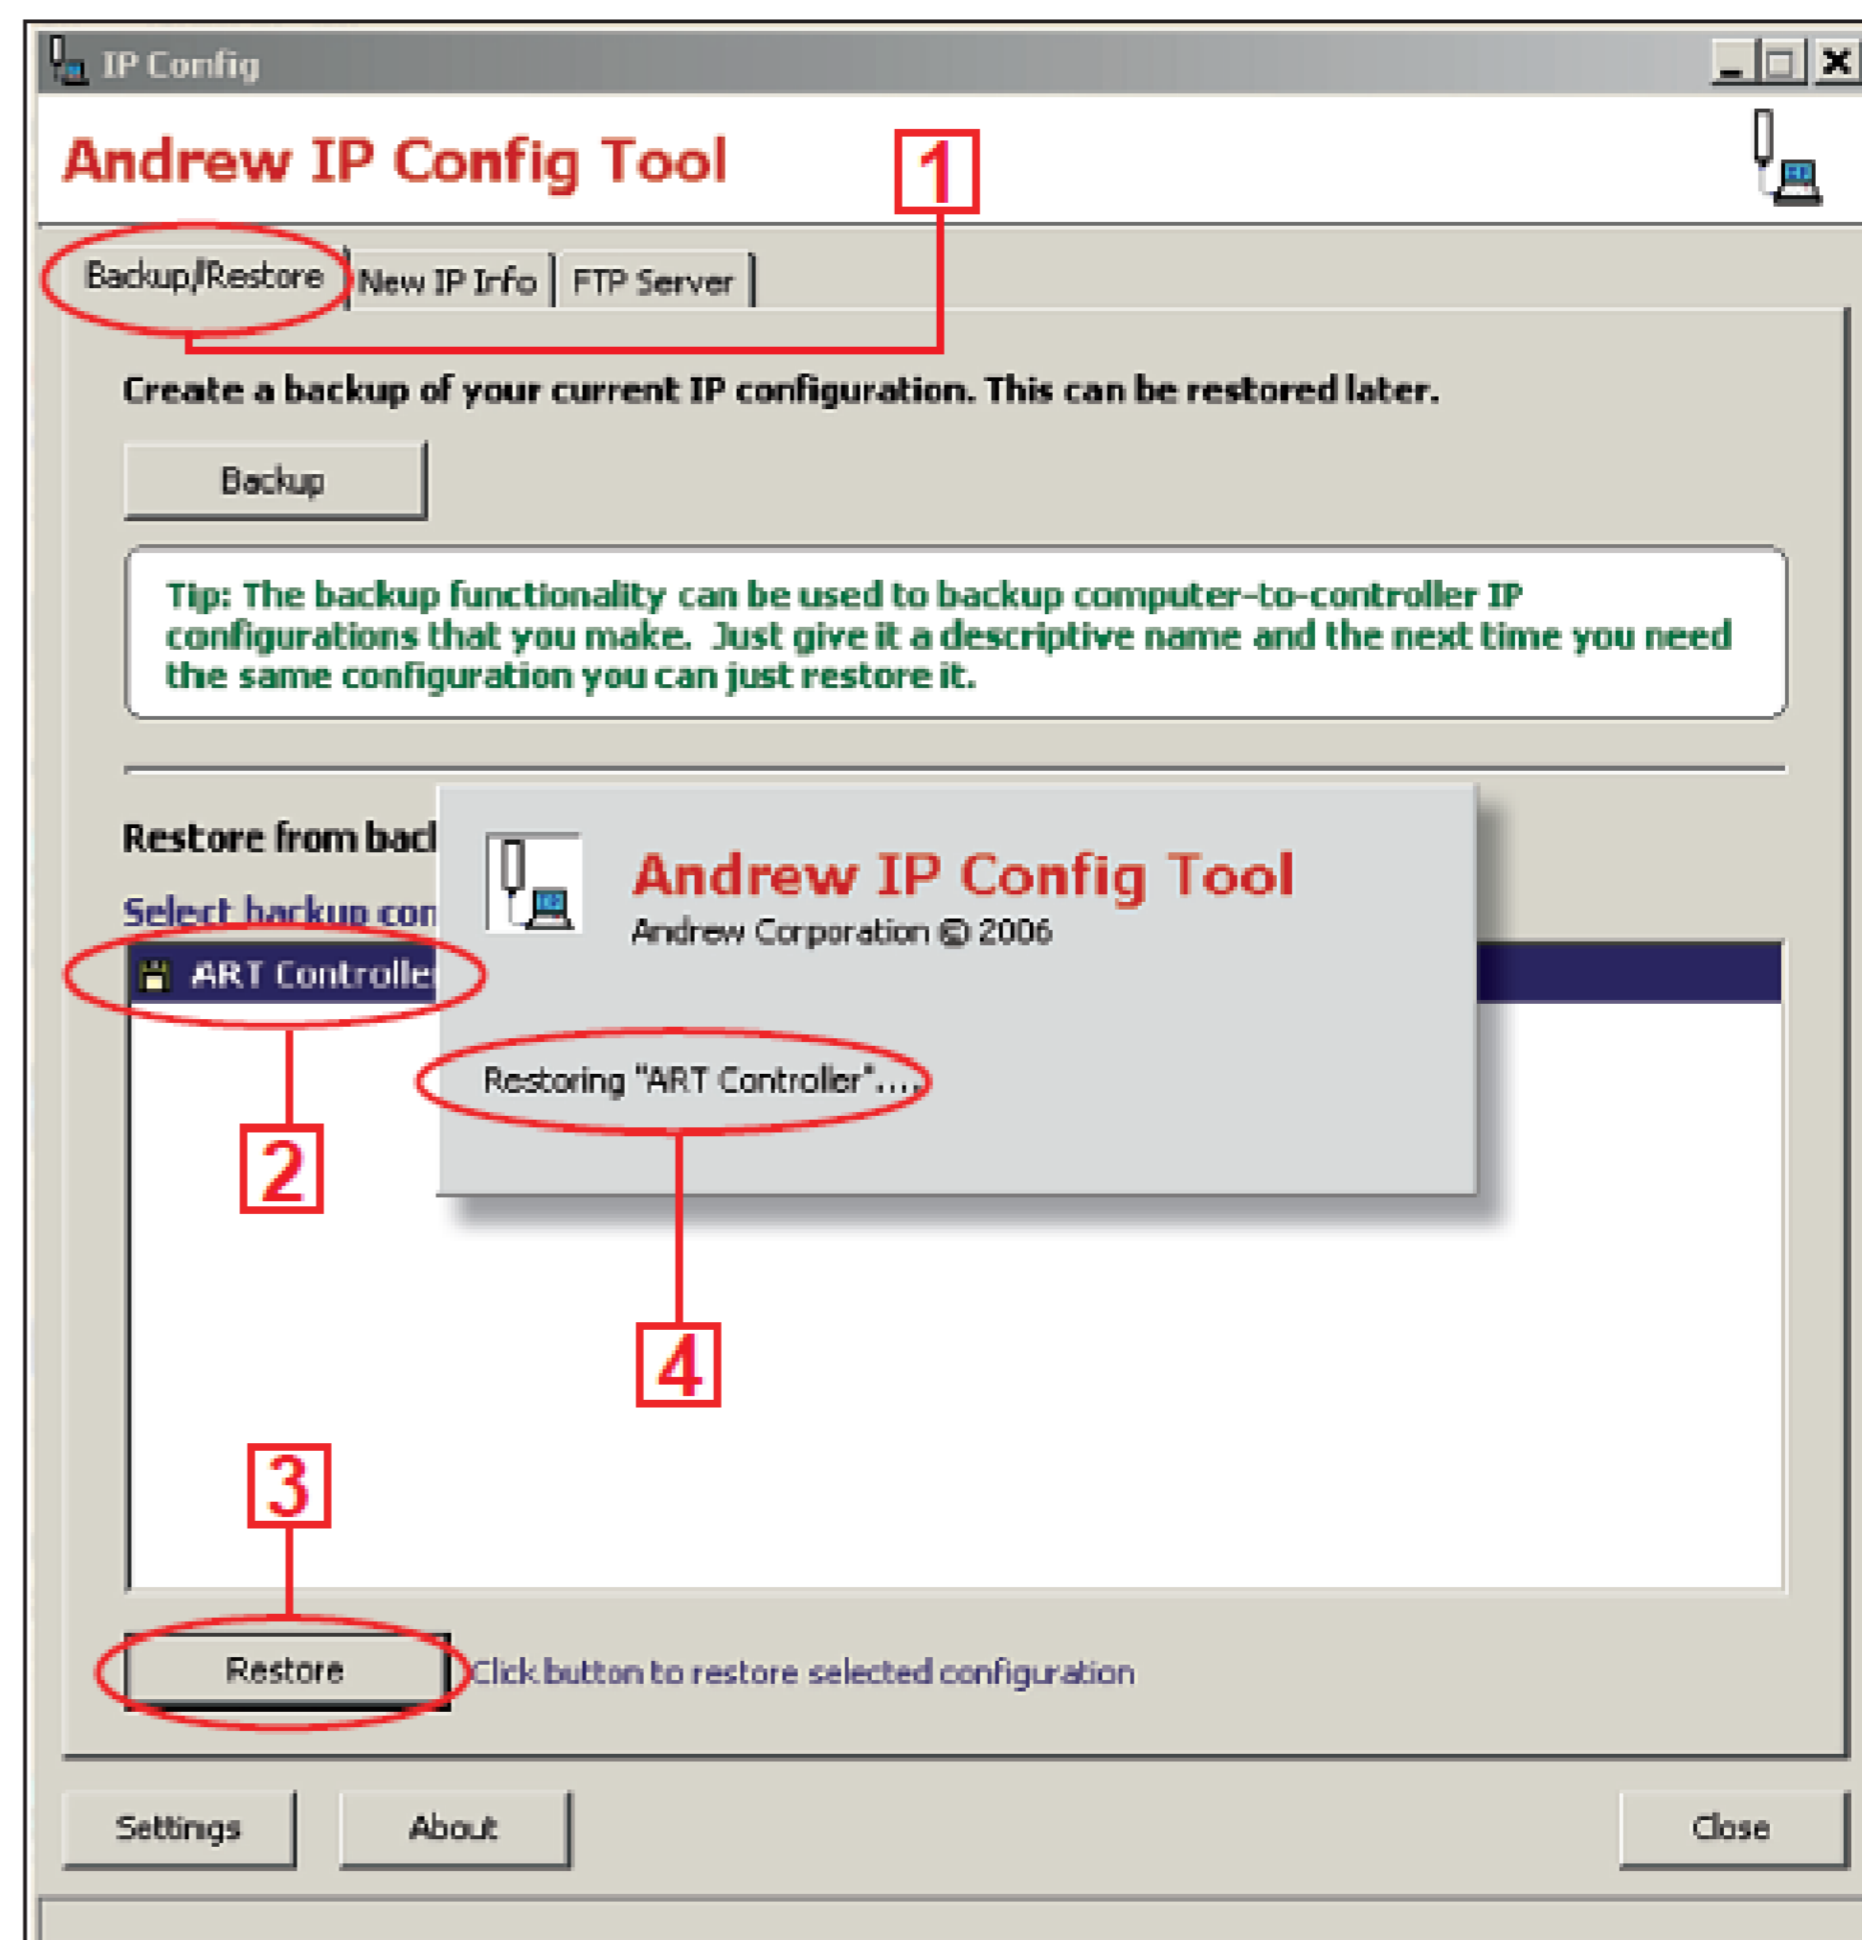

Figure 2-3. Using The IP Config Tool To Access The Controller.
- To restore temporary IP settings on the PC/laptop that were saved in the IP Config Tool, follow these steps (Figure 2-3):